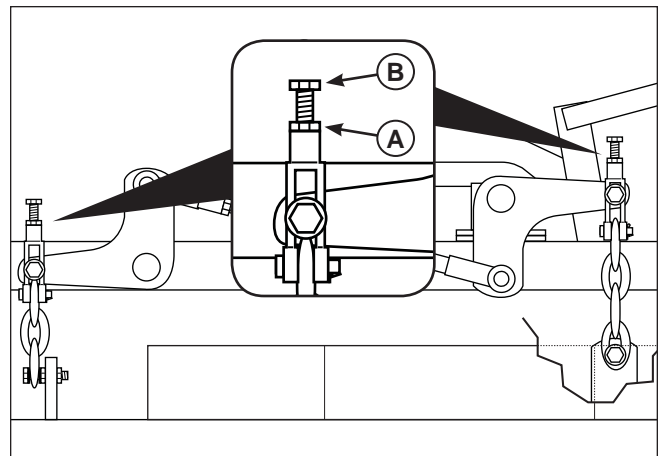

Figure 45. Fine Adjustment of the Deck Cutting Height
- Loosen the jam nut (**A**, **Figure 45**) and turn the fine adjustment bolt (**B**) to adjust the deck height until the front measurement equals 4" (10,2 cm) and the back measurement equals 4" (10,2 cm)